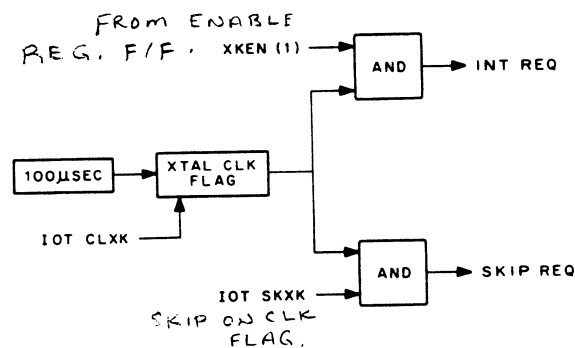

Figure 3-3 Crystal Clock Logic
The crystal clock serves as a timer and provides a pulse every 100  $\mu$ s to set the XTAL CLK flag (flip-flop) (Figure 3-3). The state of the crystal clock flag is used by the IOT SKXX (skip on crystal clock flag) to cause a skip request if the flag is set. IOT SKXX is caused by BMB bit 9(0) and the combination of IO2 decoded in the decoder (MB 6, 7, 8 as 010) and the IOP 1 pulse from the computer. To cause an interrupt request, the 1 state of the flag is ANDed with XKEN(1) from the Enable Register. XKEN is set by IOT OTEN (AC bit 3 (1)).